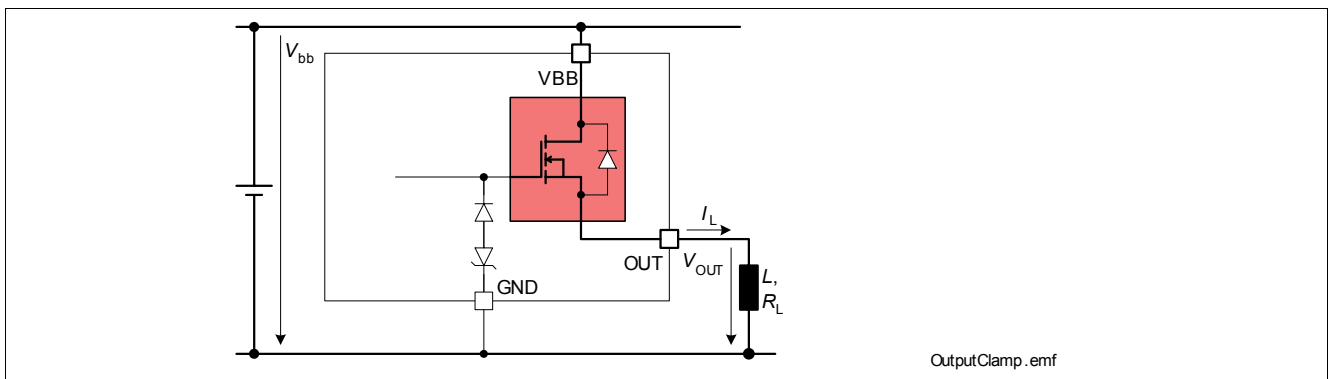
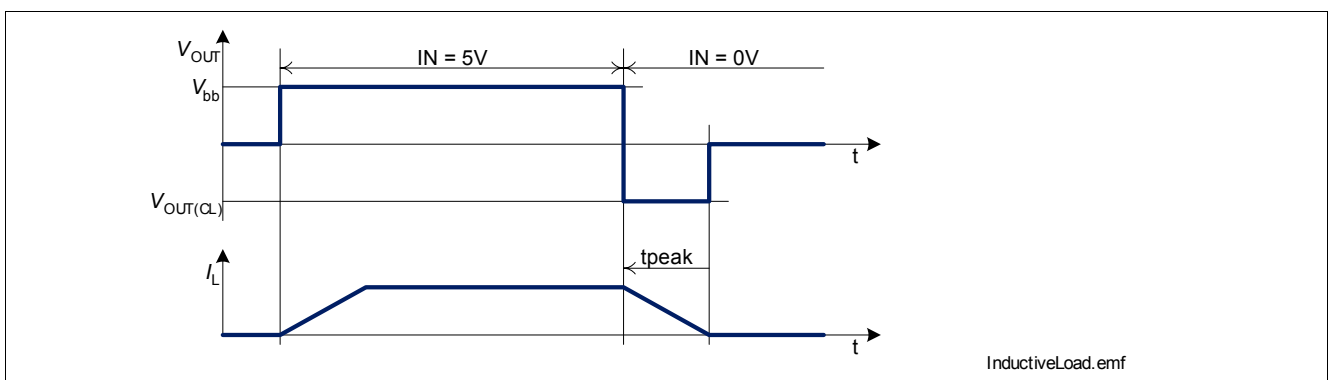

Figure 7 Output Clamp (OUT1 and OUT2)
Figure 8 Switching an Inductance
- 4) Pulse shape represents inductive switch off:  $I_L(t) = I_L(0) * (1 - t / t_{peak})$ ;  $0 < t < t_{peak}$ . Please see Figure 8
To prevent destruction of the device, there is a voltage clamp mechanism implemented that keeps that negative output voltage at a certain level ( $V_{OUT(CL)}$ ). See Figure 7 and Figure 8 for details. Nevertheless, the maximum allowed load inductance is limited.